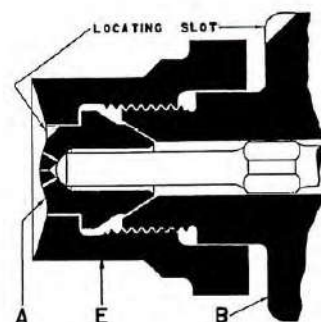

Fig. 43A. SPRAYER NOZZLE AND CAP. (Improved Type).
IMPROVED TYPE SPRAYER NOZZLE.—Later engines are fitted with an improved type sprayer nozzle, see Fig. 43A. The joint between the nozzle and the body is a metal to metal one, in the form of a cone seating, the surfaces of which have been lightly ground together.
- (c) See that the coned seating of the nozzle **A** and the sprayer body **B** (Fig. 43A) has not been damaged when dismantling. If it has the fuel oil may leak past the joint and find its way out between the nozzle and the nozzle cap **D**. See notes above respecting renewal and grinding in the nozzle.